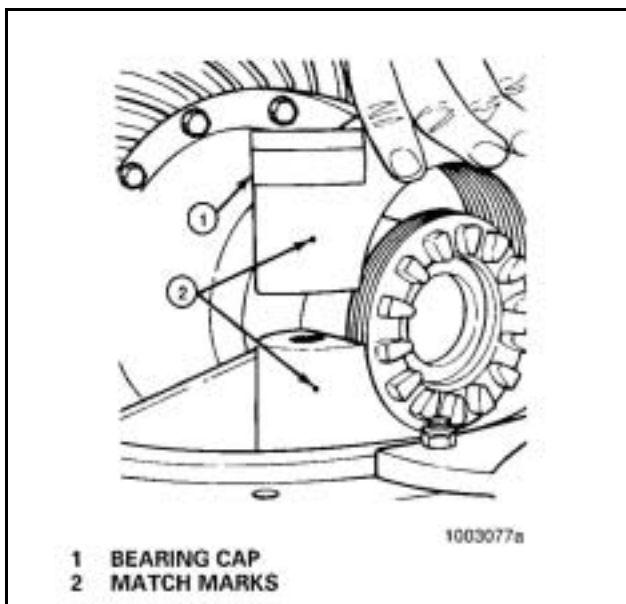

Figure 99
7. Install the bearing caps over the bearings and adjusting rings in the correct location as marked before removal. **Figure 99.**